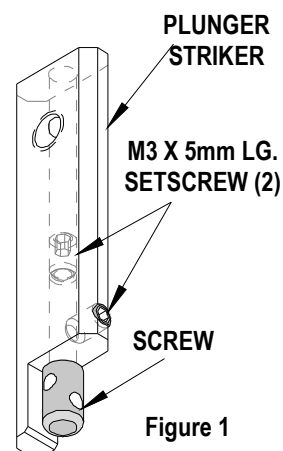

Figure 1
2. Loosen the (2) M3 x 5mm long setscrews; see Figure 1, before turning the screw.
3. Start by adjusting the screw so it just touches the insulation outside diameter of the wire being crimped. If wire Bend Up exists, turn the screw a quarter turn clockwise (CW) to lengthen it.